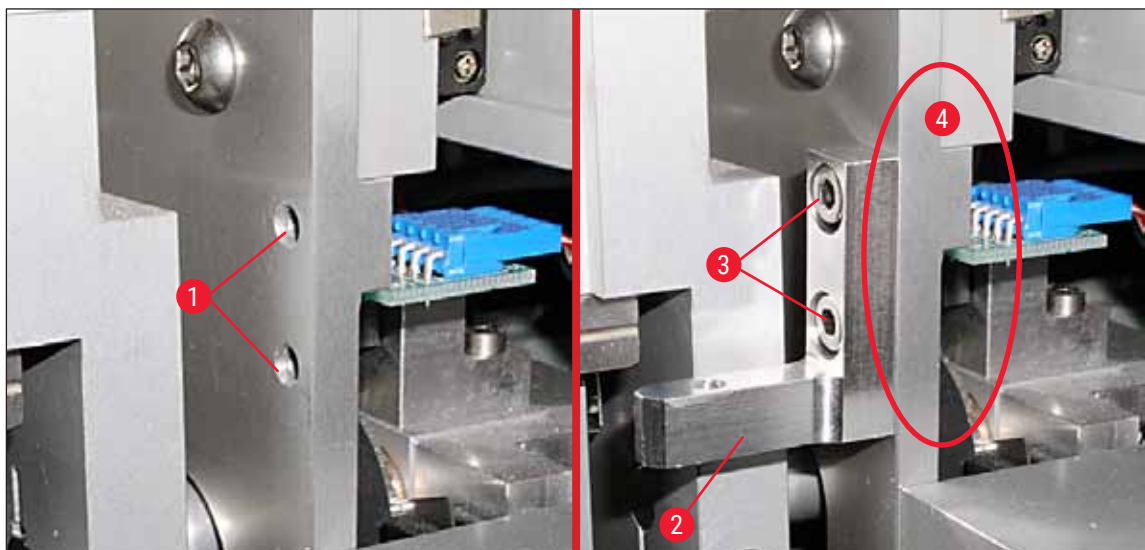

Fig. 21
2. First, fasten the mounting bracket (→ Fig. 21-2) in the bores (→ Fig. 21-1) in the housing wall (→ Fig. 21-4) using the two screws (→ Fig. 21-3). Make sure that the mounting bracket is parallel to the edge of the housing wall (ellipse, (→ Fig. 21)).
2. If the edge of the specimen slide touches the lid of the brush holder, you can carry out a fine adjustment after unscrewing the screws (→ Fig. 21-3) on the housing wall (→ Fig. 21). To do so, use the available play in the bores.